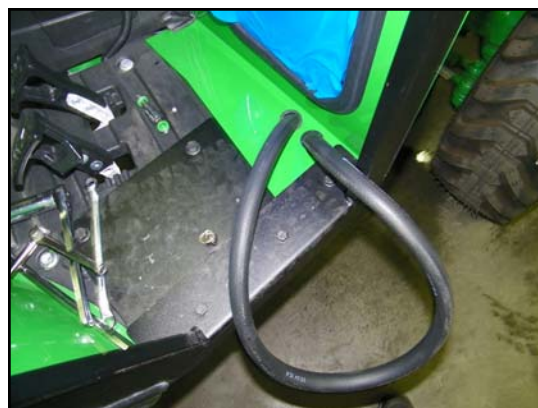

Fig. 3.2
3.2 Per figure 3.2, push ends of heater hose through snap bushings, from inside the cab, leaving a loop long enough to connect to the heater.